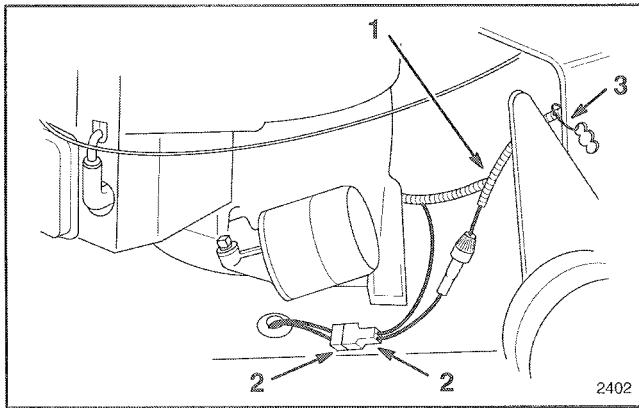

Figure 5
2. Push the rectangular connector together (Fig. 5).
- Secure the wire harness to the handle frame, using the cable tie (Fig. 5).